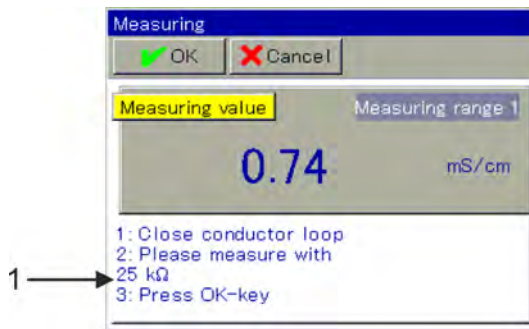

Fig. 79: Follow the instructions (1)
9. ▶ Set the calibration to 25 kΩ. When the measurement display has stabilised, confirm with "OK". (See Fig. 79 .)